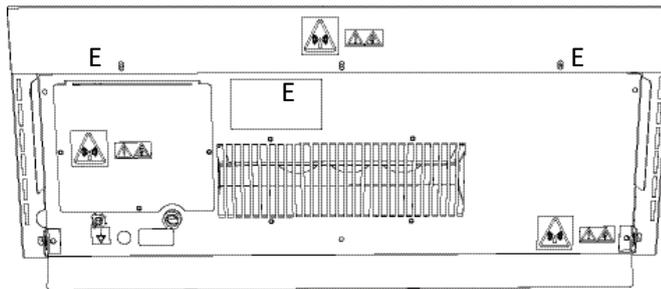

Figure 11
**3.8 REAR PANEL c/w WALL SPACERS** Remove main access panel. Refer to Section 3.2. Disconnect main cable from mains terminal. Remove 12 fixings. Refer to Figure 11. Slide panel down from under hob rear. Replace in reverse order. Refer to wiring diagram B in Section 5 of this manual.
Remove 2 fixings (C) that secure panel to generator cradle. Refer to Figure 11. Replace in reverse order.